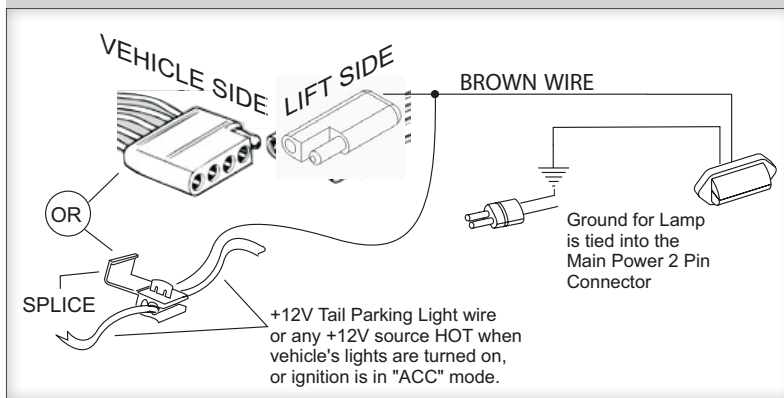

Figure 19-3
**NOTE:** A standard two-contact trailer connector is included with the lift. This is for the license plate lamp. If your vehicle is not equipped with the proper connector, you can use the **BROWN WIRE** to make a wire splice and achieve the same result. [Figure 19-3]